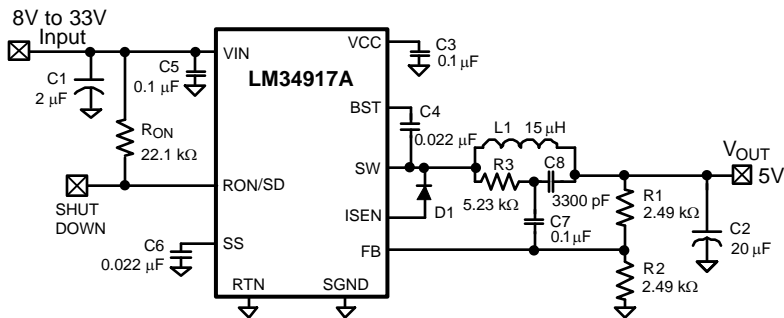
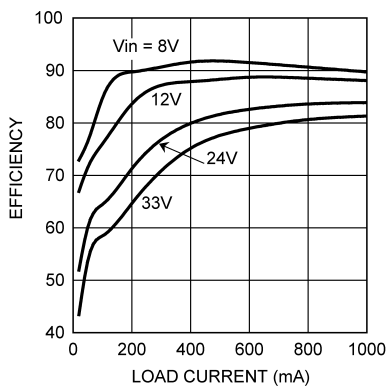
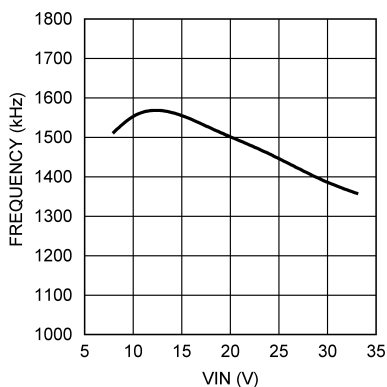
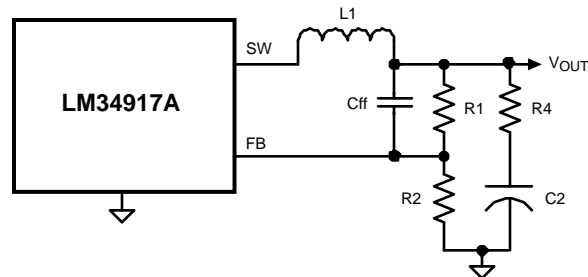

Figure 15. Example Circuit
Figure 16. Efficiency vs. Load Current and VIN (Circuit of Figure 15)
Figure 17. Frequency vs. VIN (Circuit of Figure 15)
Figure 18. Reduced Ripple Configuration
The final circuit is shown in Figure 15, and its performance is shown in Figure 16 and Figure 17. Current limit measured approximately 1.34A at  $V_{in} = 8V$ , and 1.27A at  $V_{in} = 33V$ . The output ripple amplitude measured 4 mVp-p at  $V_{in} = 8V$ , and 14 mVp-p at  $V_{in} = 33V$ .
**a) Alternate #1:** In Figure 18, R3, C7 and C8 are removed, and Cff and R4 are installed, resulting in a higher ripple level than the circuit of Figure 15. Ripple is created at VOUT by the inductor’s ripple current passing through R4. That ripple voltage is AC coupled to the FB pin through Cff, allowing the minimum ripple at VOUT to be set at 25 mVp-p. The minimum ripple current amplitude (IOR(min)) is calculated by re-arranging Equation 11 using tON(max) and VIN(min). The minimum value for R4 is calculated from:
**b) Alternate #2:** In Figure 19, R3, C7 and C8 are removed, and R4 is installed, resulting in a higher ripple level than the circuits of Figure 15 and Figure 18. Ripple is created at VOUT by the inductor's ripple current passing through R4. That ripple voltage is coupled to the FB pin through the feedback resistors (R1, R2). Since the LM34917A requires a minimum of 25 mVp-p ripple at the FB pin, the ripple required at VOUT is higher than 25 mVp-p by the gain of the feedback resistors. The minimum ripple current (IOR(min)) is calculated by re-arranging Equation 11 using tON(max) and VIN(min). The minimum value for R4 is calculated from: